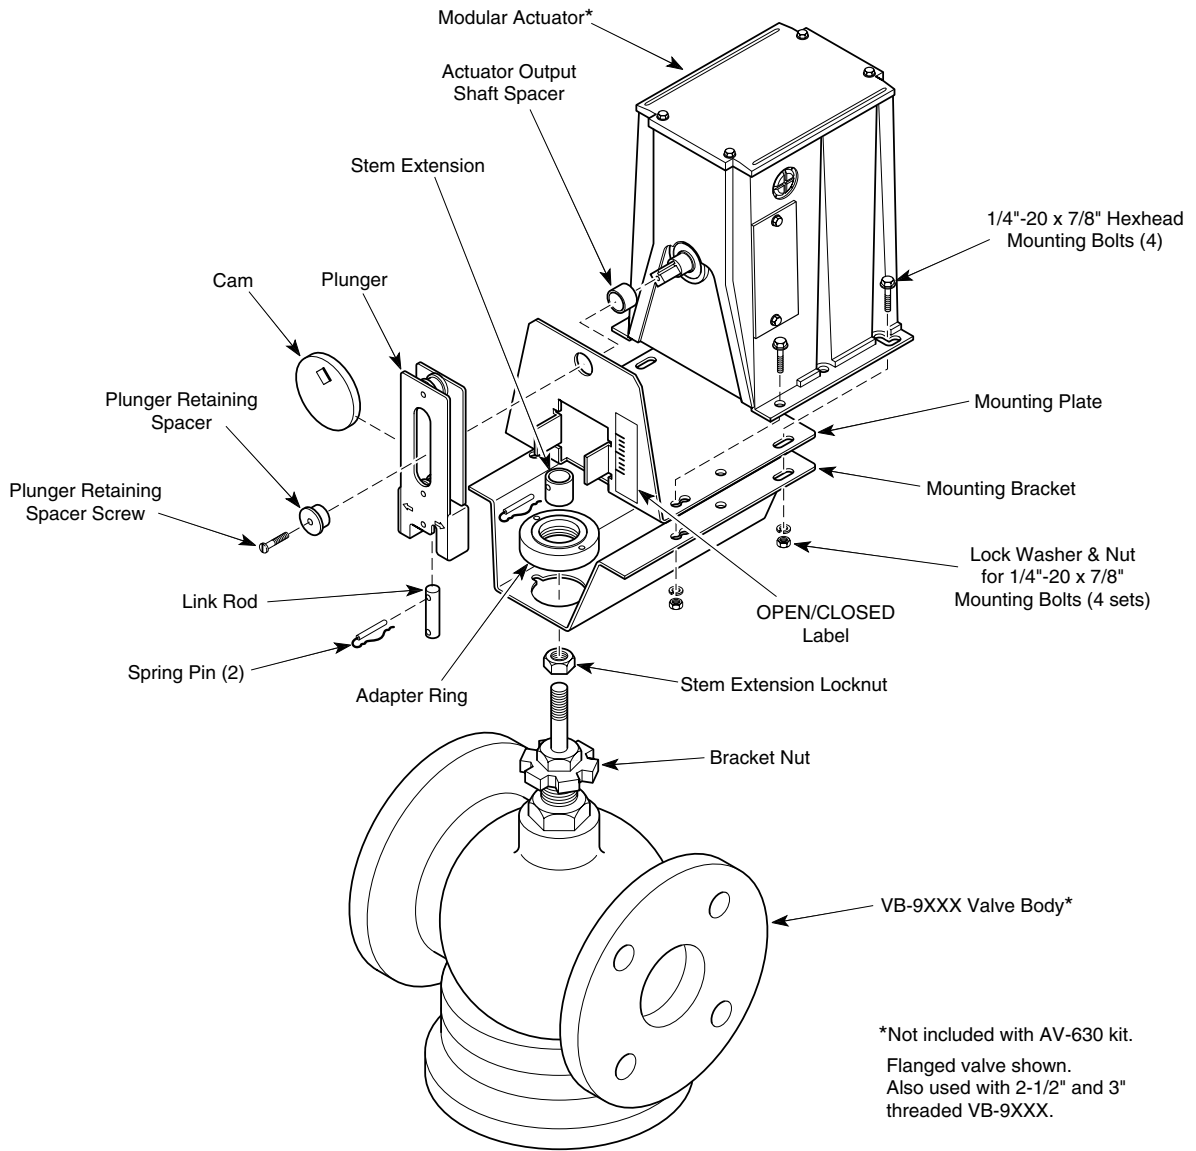
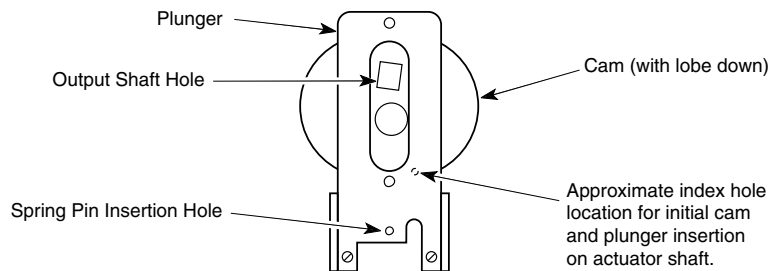

Figure-6 Assembly of AV-630 or AV-630-030 Valve Linkage with VB-9XXX Valve Body.
Figure-7 Initial Cam Installation Position for Valves Assembled to the "Load, Normally Closed-CCW Spring Return" or "Load" End of MM-400/500 Series Actuators.
See Table-2, Figure-6, and Figure-7.
8. With the word "POSITION" marked on the bottom of the plunger facing the installer, insert the cam into the plunger *with the cam part number facing the installer*. The cam square shaft hole must be located on the top of the plunger slot and the index hole located as shown in Figure-7.